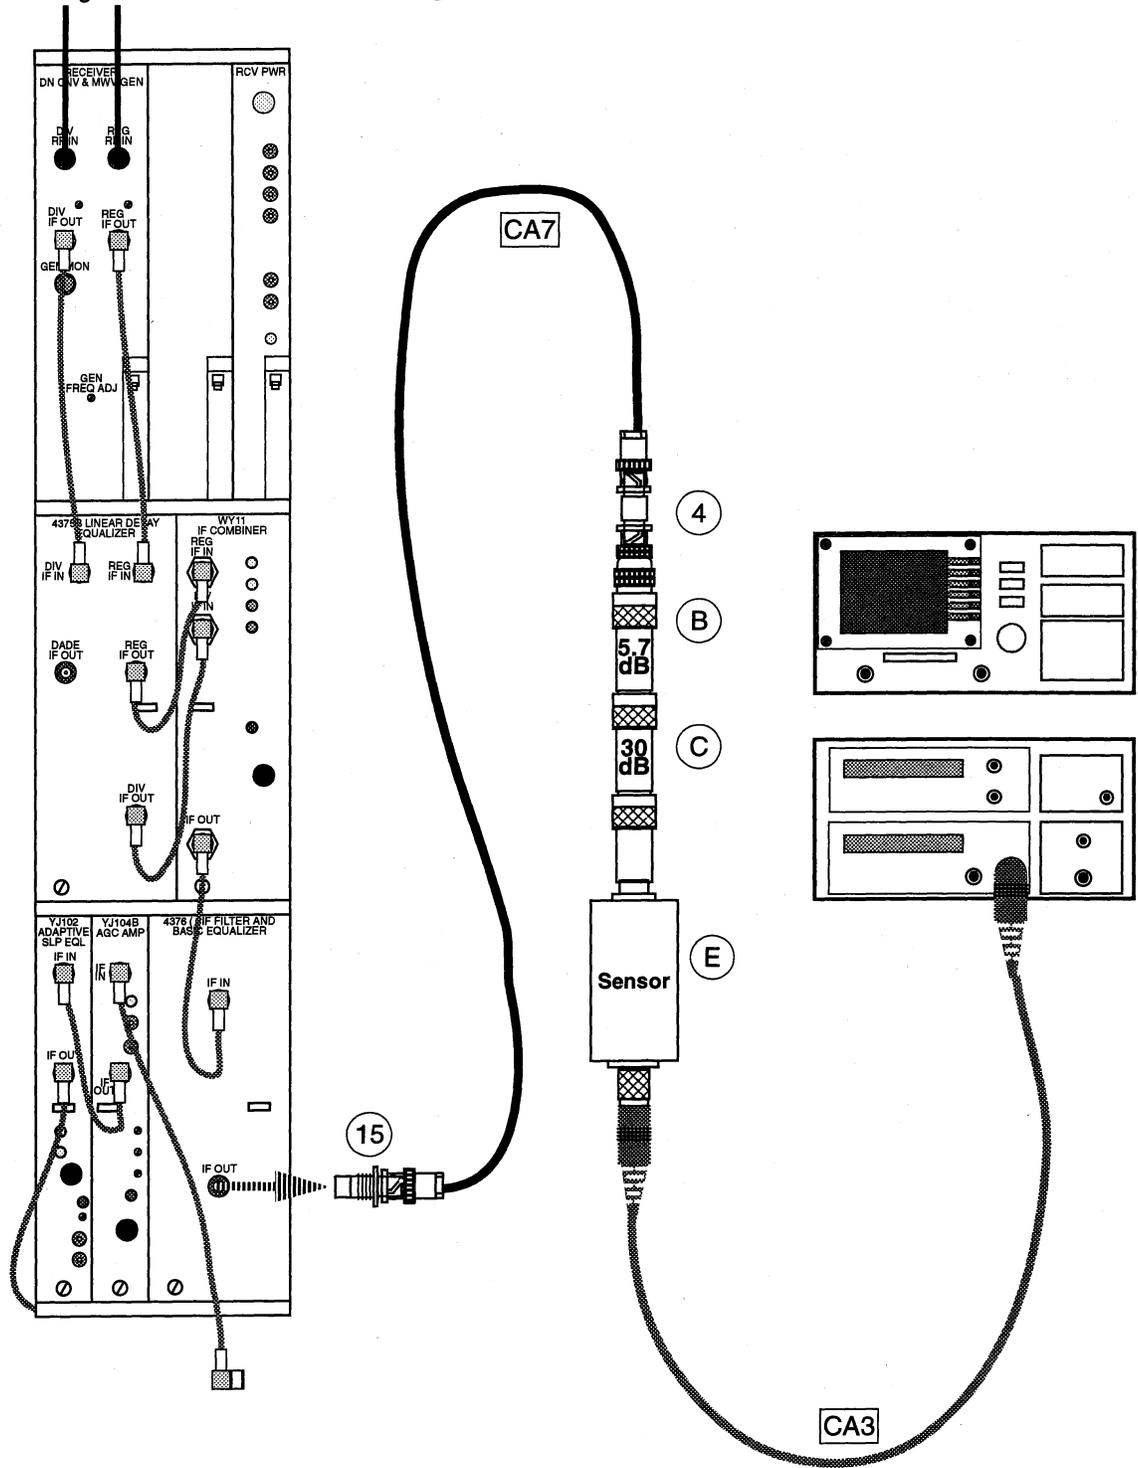

Figure 7. IF Filter and Basic Equalizer IF OUT Level (ANT DIV)
- b. Connect the power meter to the IF OUT jack as shown in Figure 7.